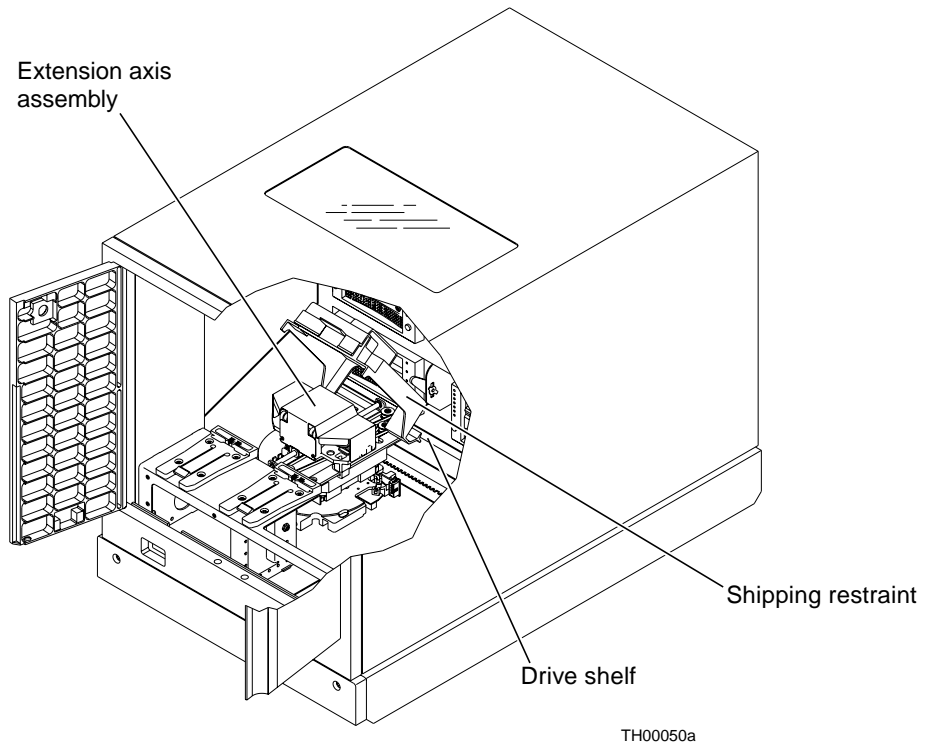

FIGURE B-1 Inserting the Shipping Restraint
- 6. Insert the shipping restraint through the open doors at a downward angle, hooking the restraint on the lower drive shelf (FIGURE B-1).**